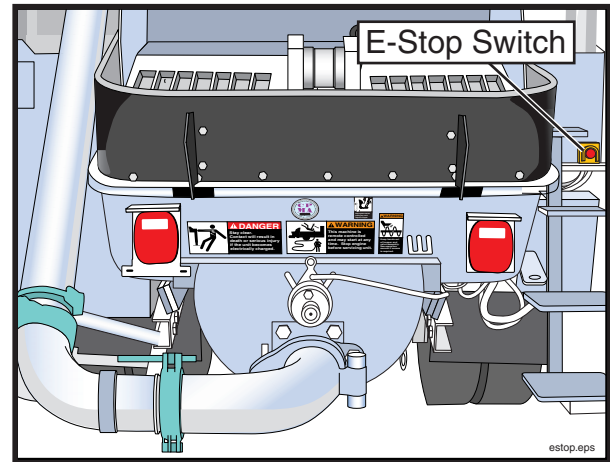

Figure 67
- 16.1 **⚠️ WARNING** You must know how to stop the pump and boom. Have the operator show you the locations of the emergency stop switches (Figure 67).